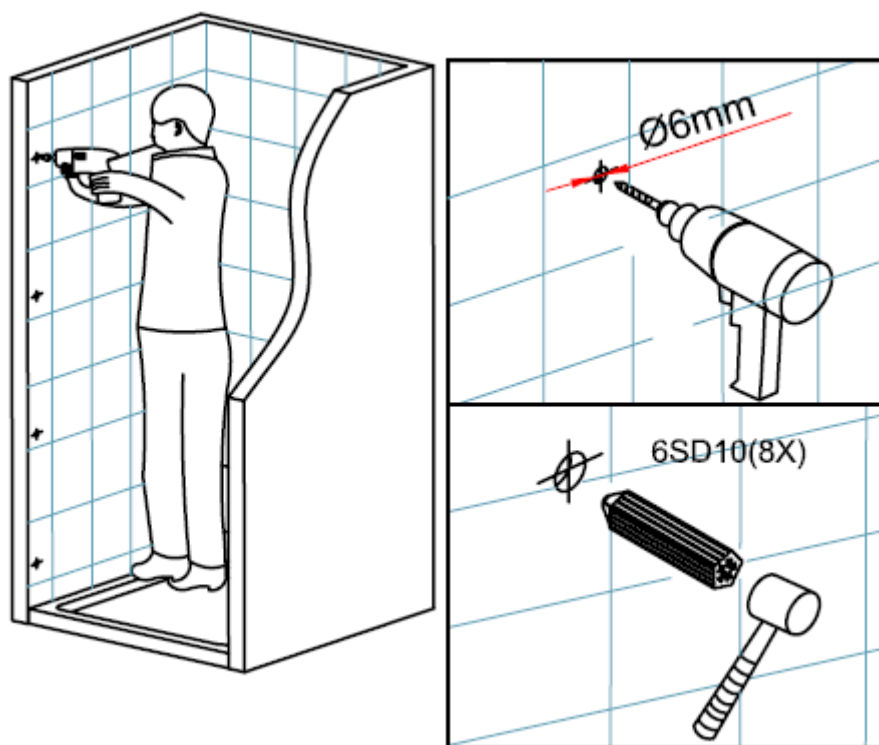

Figure 3
3. Drill the holes(\varnothing 6mm) into the wall according to the marks made and insert the wall plugs (6SD10) into the holes, as shown in figure 3